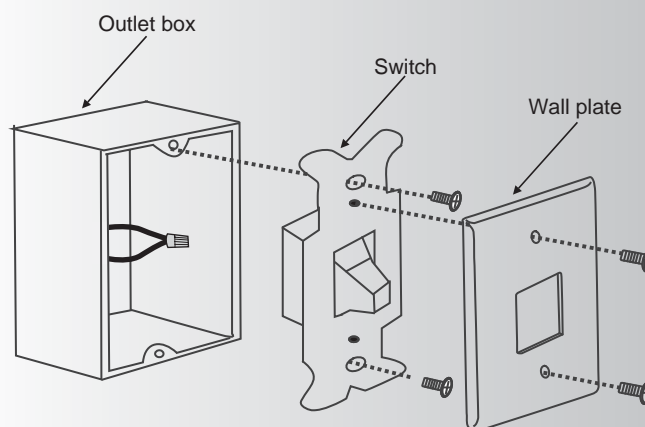

Fig. 24
Step 1. Remove the existing wall plate and the old switch from the wall outlet box. Wire nut the BLACK leads (hot) together and push back inside the outlet box. (Fig. 24)